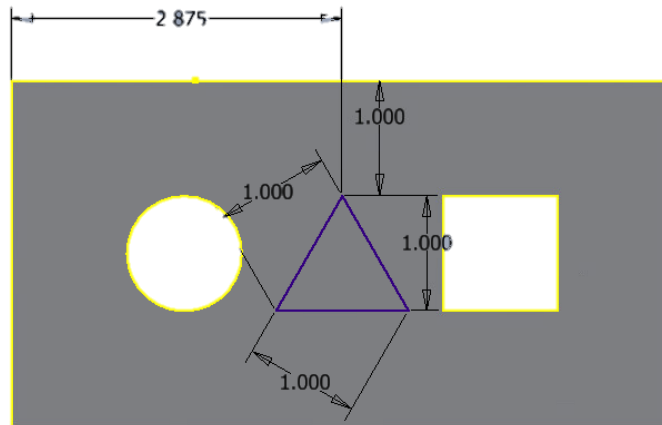

Figure 12 – Triangular Hole in Pegboard.ipt
- Constrain the triangular hole as show in Figure 12.